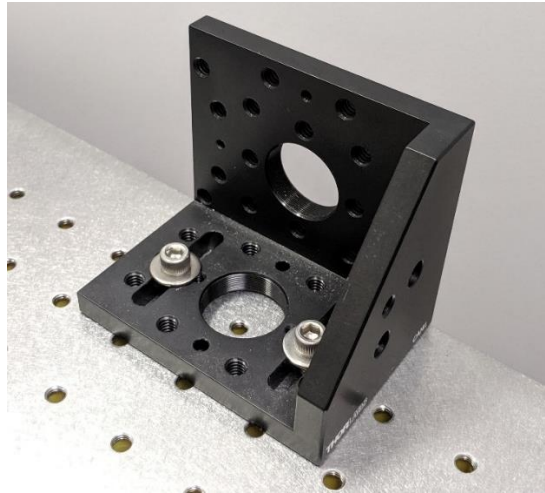

Figure 66: L-bracket Mount
1. Ensure the L-bracket mount (see Figure 66) is attached and fixed to the edge of a stable surface, such as a workbench. Please note that the use of the L-bracket mount is optional, but recommended. The maintenance on the Herriott cell mirrors can still be performed without it; however, the Herriott cell will most likely need to be secured directly to the workbench instead.